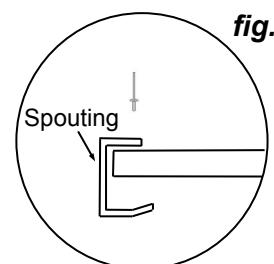

fig.4
- Nail front Roof Sheets to Ridge Beam using 1 x 50mm clout per rib. Screw to Top Plate using 1 x Roofing screw per rib (fig.4) ensuring Ridge Beam and Top Plate are straight.
- Place spouting in position and rivet to Barge Flashings at each end and rivet to roof sheets (1 rivet per 1 sheet) (fig.4).